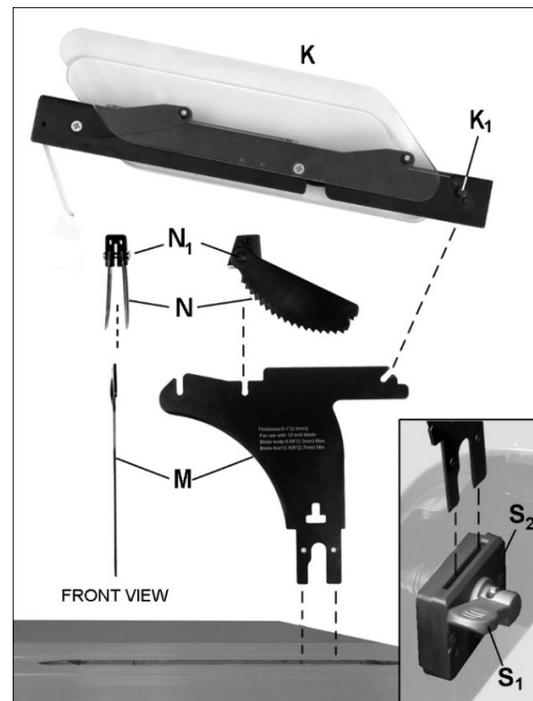

Figure 6-10: installing guard assembly
See Figure 6-10.
2. Position anti-kickback pawl assembly (N, Figure 6-10) so that angled side of pawl block faces toward front of saw, as shown.
3. Lower pawl assembly onto center notch of riving knife, with pawls straddling knife. Push and hold button on pawl block (N₁, Figure 6-10), and push pawl block down until it securely engages in notch.